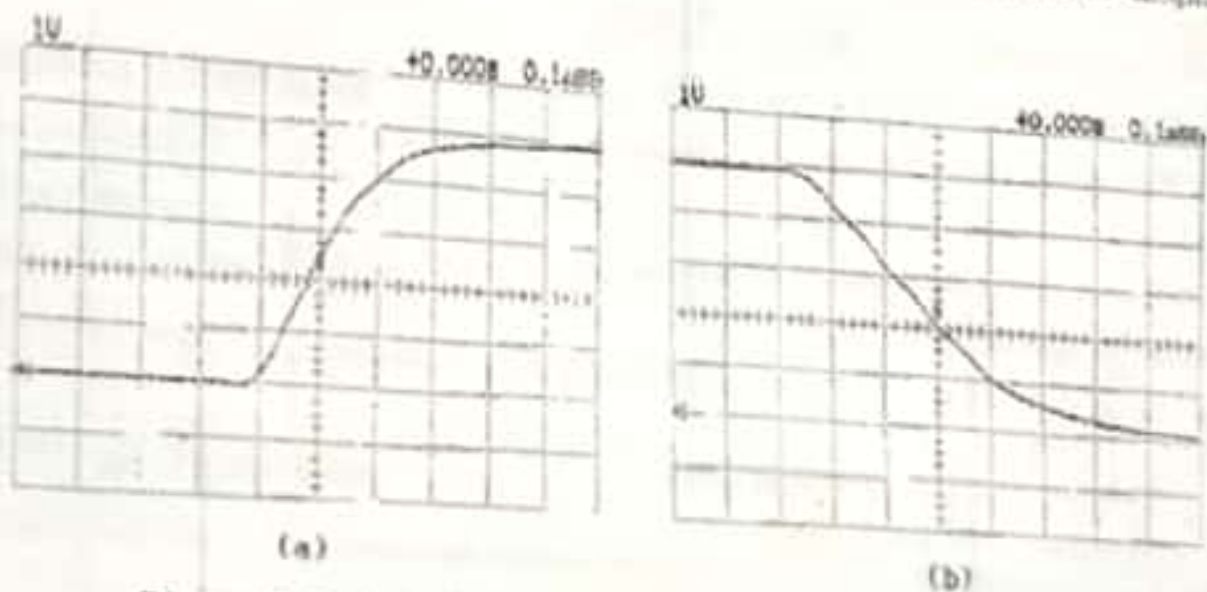

Figure 2-6. (a) Rising time & (b) falling time of pulse
(5) If you set TIME/DIV of oscilloscope to $0.1[\mu s]$ wave form like as figure 2-6(a) would be appeared. And then set SLOPE to (-) and adjust TRIGGER LEVEL to display like as figure 2-6(b).
- What's the value of rising time measured in figure 2-6(a)?
- What's the value of rising time measured in figure 2-6(b)?
(6) Connect CLK terminal of SIGNAL SOURCE to AUDIO INPUT of PAM module. set VOLT/DIV of oscilloscope to 2[V] and set TIME/DIV to $0.1[\mu s]$.